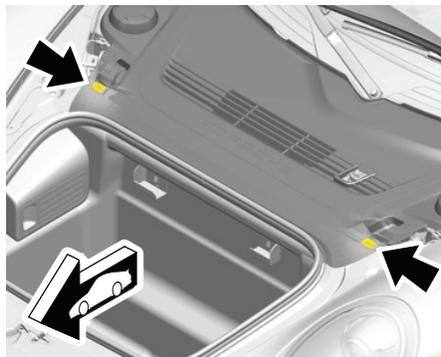

Fig. 1 Cover clip locations
1. Detach cover at lefthand and righthand (arrow) and remove it, **Fig. 1**.
12. Attach cover at lefthand and righthand (arrow), **Fig. 1**.